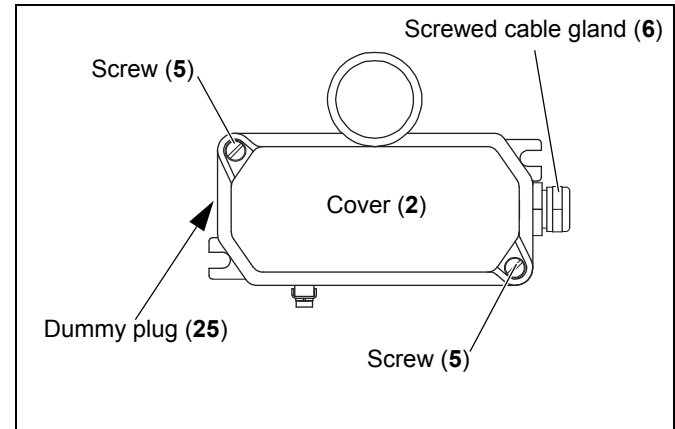

Fig. 5-12: Commissioning the belt misalignment switch
6. Check the gasket (22) of the cover (2) for damage.
7. Close the cover (2) of the belt misalignment switch.
8. Secure the cover (2) with the screws (5) (see figure 5-12, page 23).
1. Before putting the belt misalignment switch into operation, ensure that it is sealed (see fig. 5-12):
- Ensure that the screws (5) on the cover (2) are tightened with a **tightening torque of 1.5 Nm**.
- Check that the screwed cable gland (6) is tightened with a **tightening torque of 6.7 Nm**.
- Check that the dummy plug (25) is fastened tightly.
2. Open the cover (2) by loosening the two screws (5) (see figure 5-12, page 23).